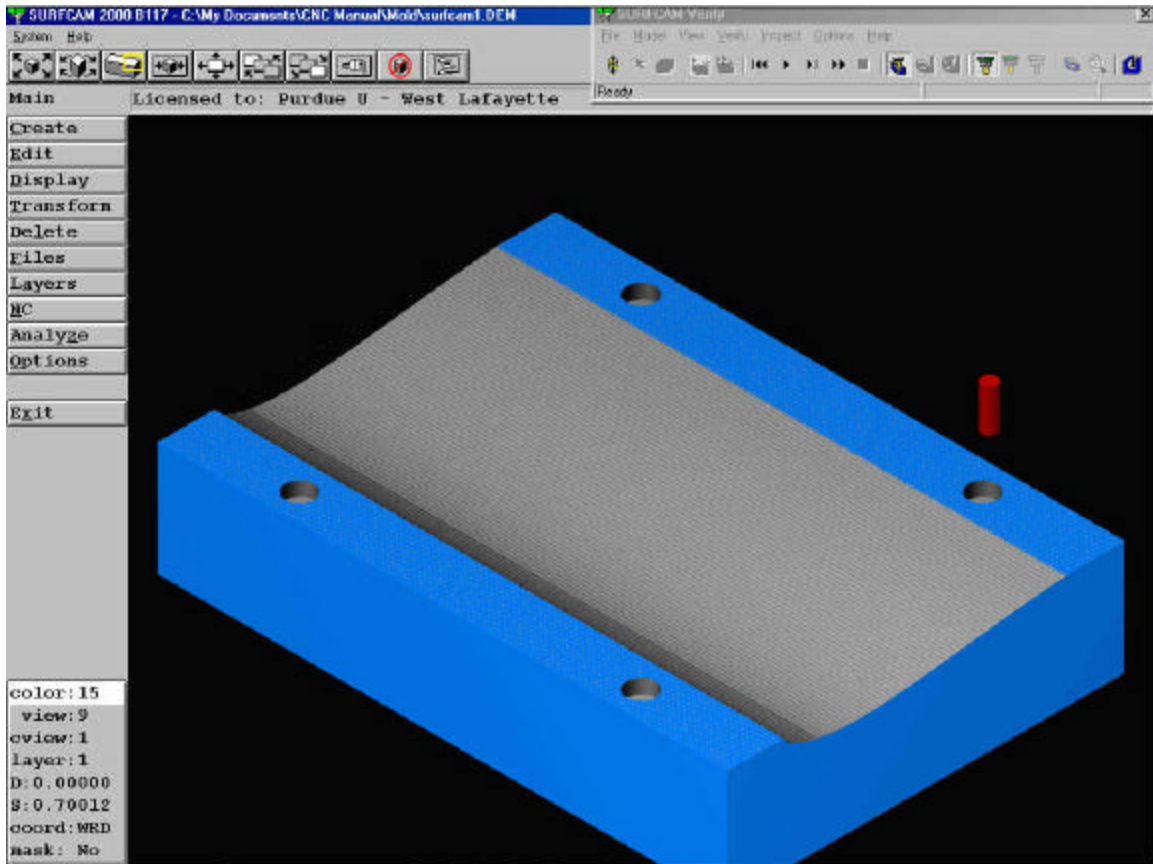

Figure 30: Simulated mold cuts using SurfCAM verify
- 7.) Click the  (start) button to begin the simulation. The final image of the simulated cuts will appear as in figure 30.